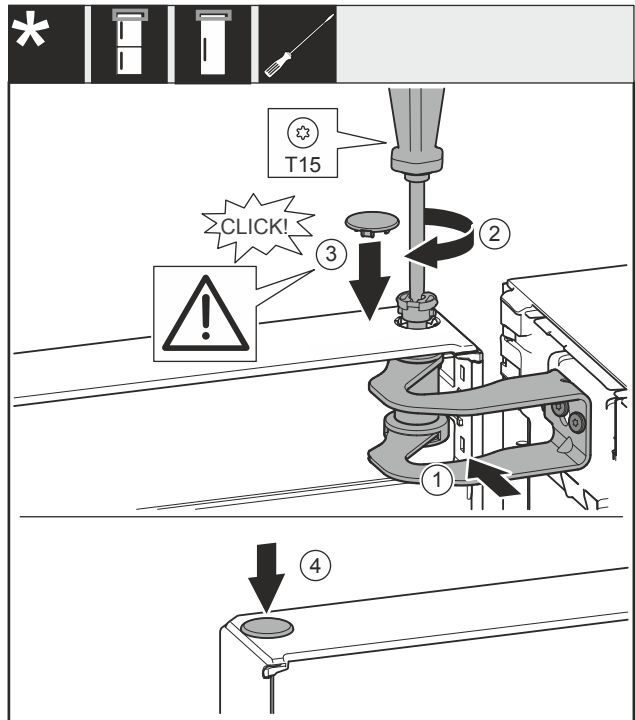

Fig. 24
- ▶ Align the door with the opening in the swap bearing block Fig. 24 (1).
- ▶ Insert the bolt Fig. 24 (2) and use screwdriver to tighten it.
- ▶ Insert the cover Fig. 24 (3).
- ▶ Check that the cover Fig. 24 (3) is resting on the door.
- ▶ Insert the cover Fig. 24 (4).